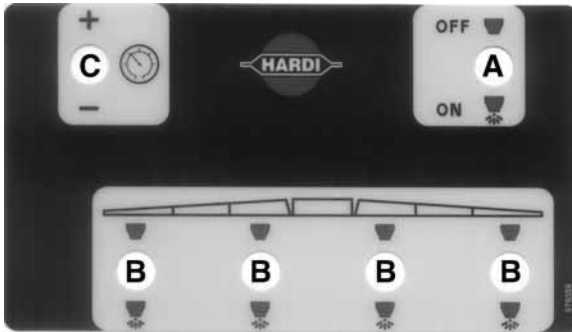

Fig. 14 (4 Section Control Box Shown)
3. On-off switch **(A)** (Fig.14) is "ON" against green symbol (down position).
4. All distribution valves switch **(B)** (Fig.14) are also "ON" against green symbol (down position).
5. Hold pressure regulating switch **(C -)** (Fig. 14) until handle **(2)** (Fig. 14) stops rotating, this will be the "minimum pressure" setting.
6. Hold pressure regulating switch **(C+)** (Fig. 14) until desired pressure is shown on the boom pressure gauge.
1. Shut-off the first boom distribution valve switch **(B)** (Fig. 14).
2. Turn the adjusting screw **(1)** (Fig. 14) until the pressure gauge **(7)** (Fig. 14) again shows the same pressure as set in step 6 above. (Turn the screw clockwise for higher pressure, counterclockwise for lower pressure).
3. Turn the first boom distribution valve switch **(B)** (Fig. 14) back on.
5. Operating the EC control unit while driving: In order to shut off the entire boom activate on-off switch **(A)** (Fig. 14) to the off (red) symbol (up position). This returns all the pump outputs to the tank through the return system. The diaphragm anti-drip valves ensures instantaneous closing of all nozzles.
In order to shut off one or more sections of the boom, switch one or more unneeded boom distribution valves **(B)** (Fig. 14) to off position. The constant pressure system ensures that the pressure does not increase in the sections which are still open.